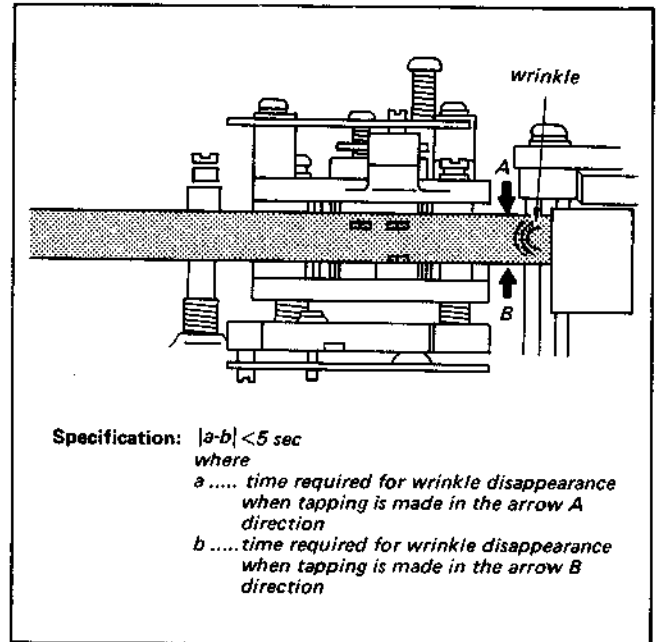

Fig. 3-34.
5. Tap the top and bottom of the tape around the capstan entrance and confirm that the specification shown in Fig. 3-34 is satisfied. If not, repeat Step 5 of Section 3-12-1, "Parallelism Adjustment of Pinch Press Lever".